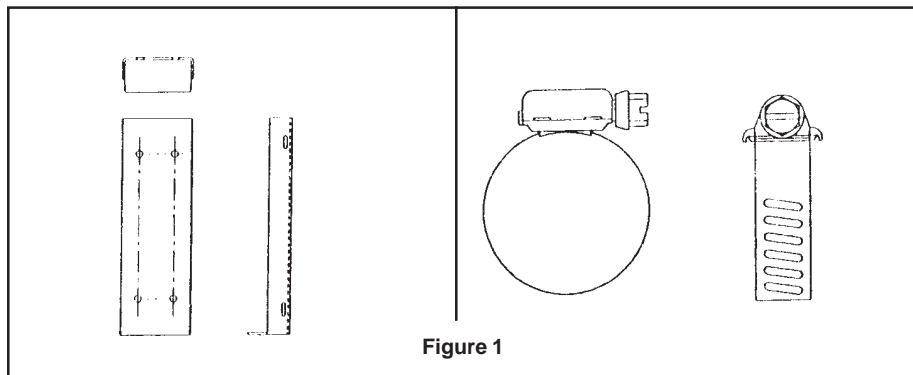

Figure 1
- Step 4** Loosen mounting bracket cylinder holding straps (**Figure 1**) and remove extinguisher from bracket. Although the sensor valve/detector is protected, care should be exercised to avoid striking the sensor valve/detector.